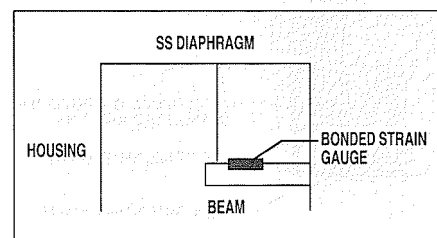

Figure 21. A silicon bar can be bonded to a diaphragm to yield a strain gauge sensor with a relatively high output.
**Bonded semiconductor strain gauge.** A silicon bar may be bonded to a diaphragm to form a sensor with relatively high output. Making the diaphragm from a chemically inert material allows this sensor to interface with a wide variety of media (see Figure 21).